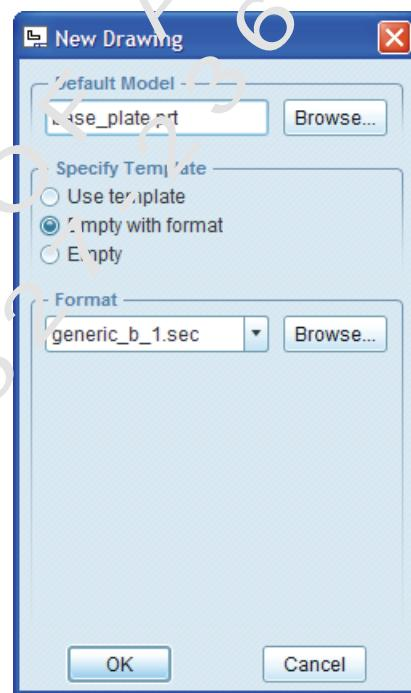

Figure 1–63
9. Click in the Format section and double-click on **generic\_b\_1.frm** in the Formats directory. If the formats directory is not listed in the Open dialog box, click to browse to the working directory and select the Format directory. The dialog box appears as shown in Figure 1–63.